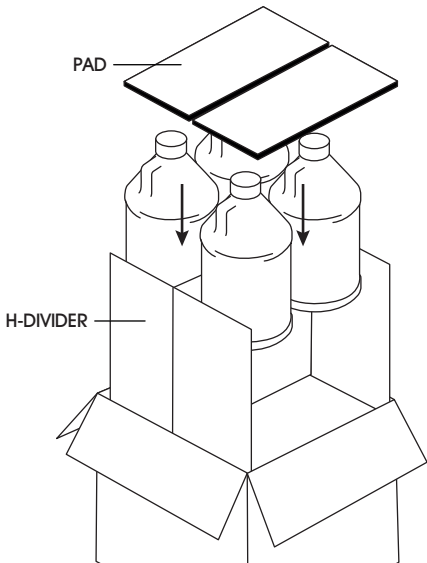

Figure 3
5. Fold the H-Divider and place it inside the box. (See Figure 3)
6. Place jugs into carton – bottom first. Two jugs on each side of the H-Divider spine. (See Figure 3)
7. Fold top pad inserts and place on top of filled jugs. (See Figure 3)